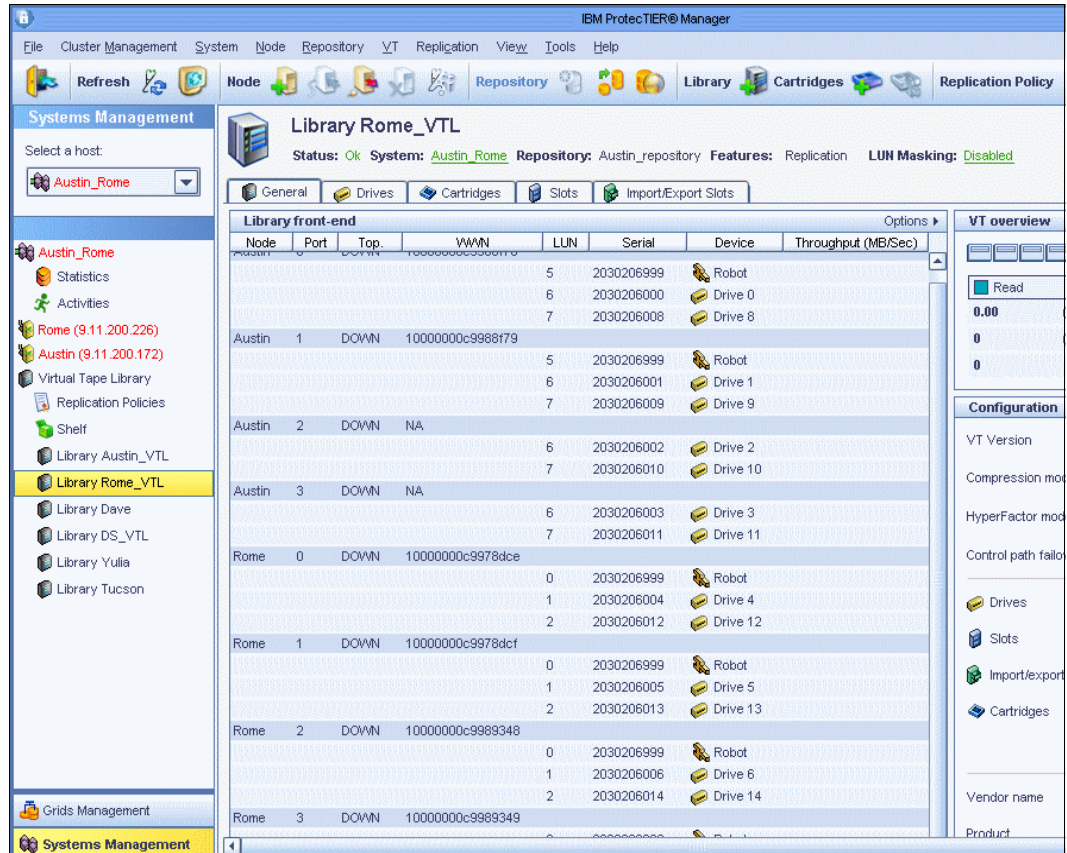

Figure 10-131 Check cartridge integrity select library window
1. From the System management pane, select the library that has the cartridge inserted that should be verified (Figure 10-131).